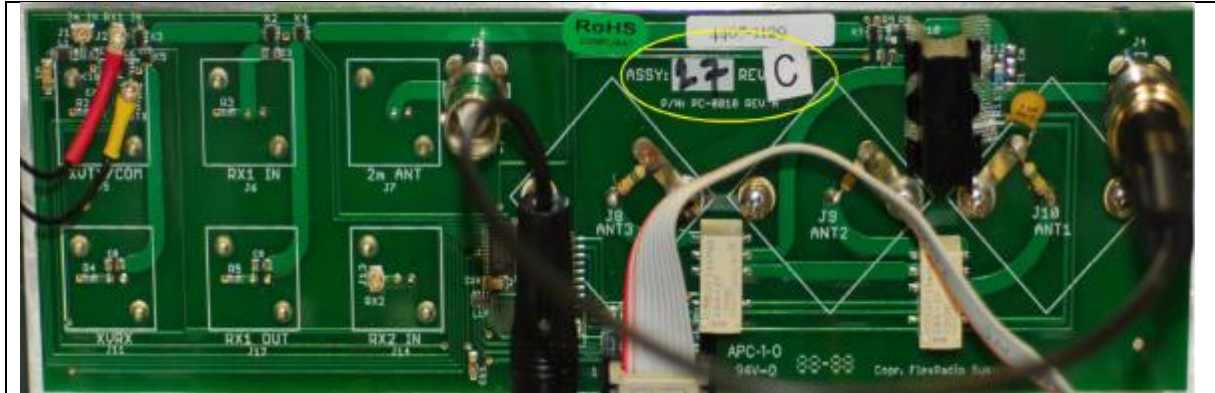

Figure 5
- c. **"ASSY 27" RFIO BOARDS ONLY:** Before installing RX2, check the assembly number on your RFIO board to see if the following test is required. If your RFIO board reads "ASSY 27", as shown in Figure 5, then you will need to check to see if the RX2 IN connector is shorted. If your board is NOT an "ASSY 27", then skip to Step "d" below.